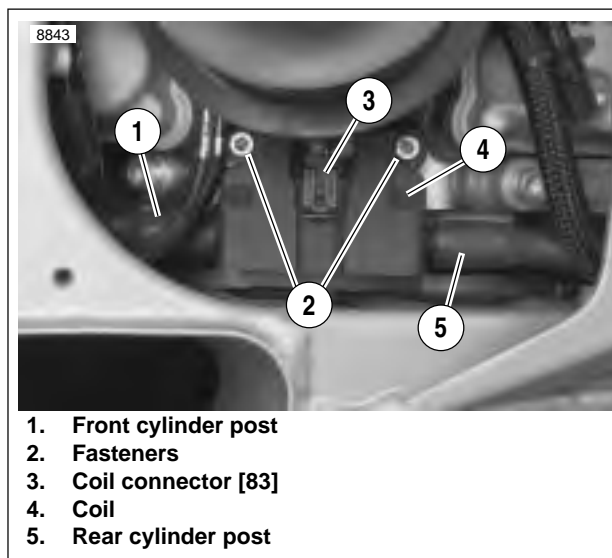

Figure 4-183. Ignition Coil Location
4. See Figure 4-183. Disconnect the spark plug cables from the coil plug posts (1, 5).
5. Detach connector (3) [83].
6. Remove coil fasteners (2).
2. See Figure 4-183. Attach coil to frame with fasteners (2). Tighten to 144-168 **in-lbs** (16.3-19.0 Nm).
4. Attach connector (3) [83].